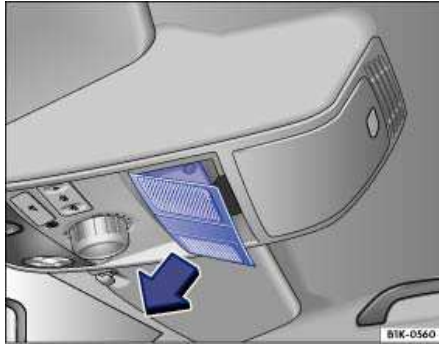

Fig. 201 In headliner: Removing cover.
- Remove the cover in direction of the arrow ⇒ fig. 201.